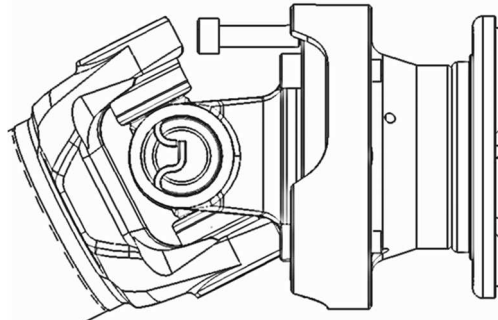

Figure 2
- 4) To install the final two bolts, droop the driveshaft or turn it so you can make room to thread in one of the bolts. Refer to figure 2 & 3 below. It is recommended to use a 6 mm hex ball end socket. Once tight, rotate driveshaft or position it in such a way to install the opposite side bolt.